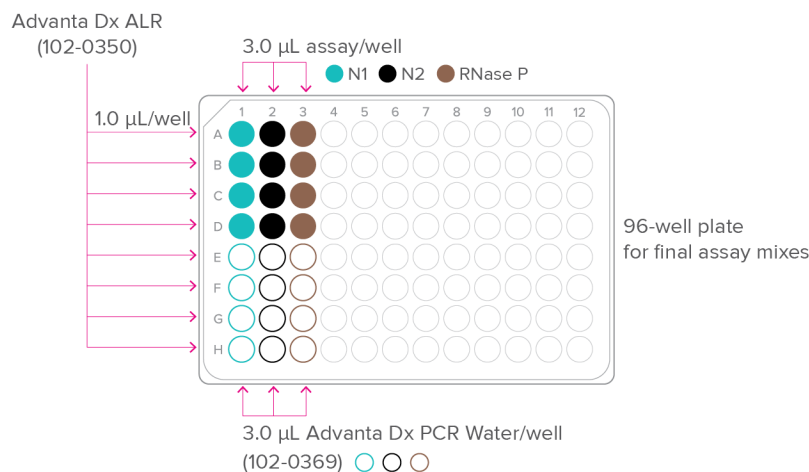

Figure 2. Final assay mixes plate (per-well transfer volumes)
- In a DNA-free hood, prepare the assay mixes using the 2019-nCoV Probe & Primer Kit (102-0686) as shown in Figure 2.